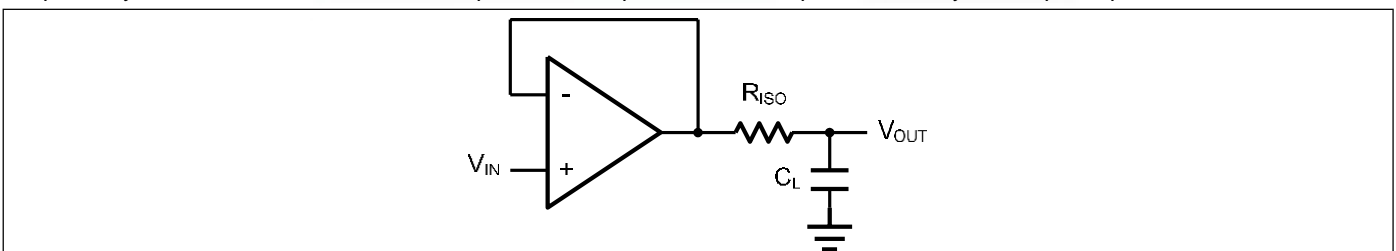
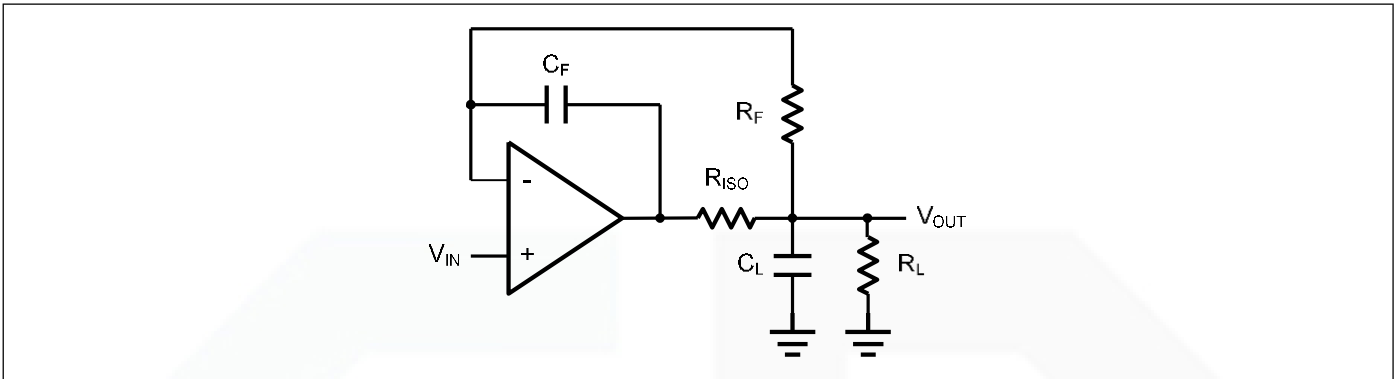

Figure 2. Indirectly Driving a Capacitive Load Using Isolation Resistor
Figure 3. Indirectly Driving a Capacitive Load with DC Accuracy
The MA321/358/324 family is optimized for bandwidth and speed, not for driving capacitive loads. Output capacitance will create a pole in the amplifier's feedback path, leading to excessive peaking and potential oscillation. If dealing with load capacitance is a requirement of the application, the two strategies to consider are (1) using a small resistor in series with the amplifier's output and the load capacitance and (2) reducing the bandwidth of the amplifier's feedback loop by increasing the overall noise gain. Figure 2. shows a unity gain follower using the series resistor strategy. The resistor isolates the output from the capacitance and, more importantly, creates a zero in the feedback path that compensates for the pole created by the output capacitance.
The circuit in Figure 3 is an improvement to the one in Figure 2.  $R_F$  provides the DC accuracy by feed-forward the  $V_{IN}$  to  $R_L$ .  $C_F$  and  $R_{ISO}$  serve to counteract the loss of phase margin by feeding the high frequency component of the output signal back to the amplifier's inverting input, thereby preserving the phase margin in the overall feedback loop. Capacitive drive can be increased by increasing the value of  $C_F$ . This in turn will slow down the pulse response.